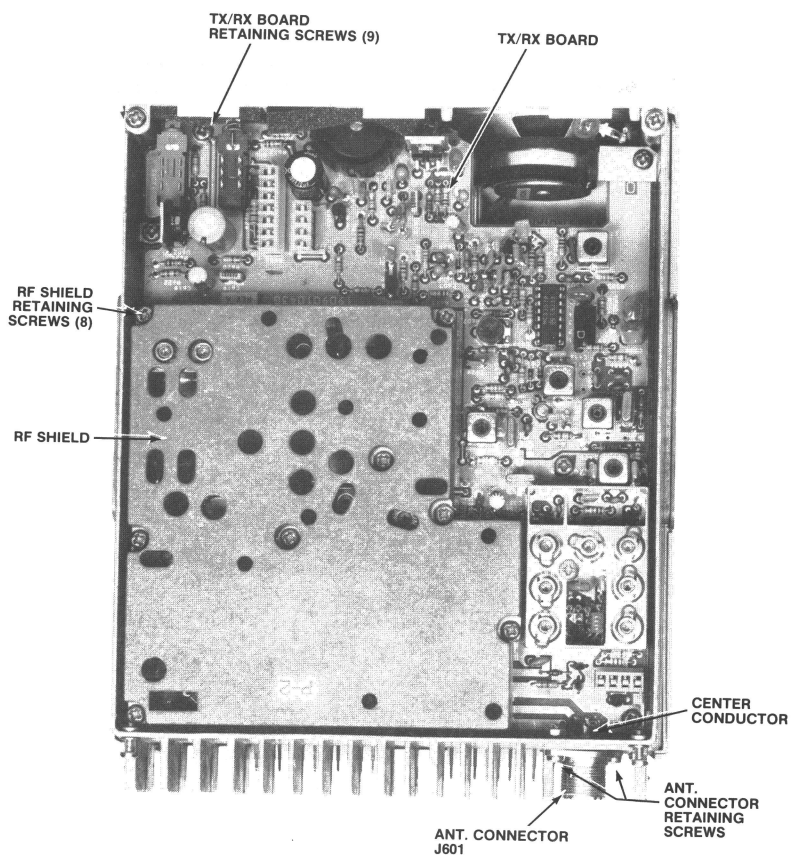

Figure 1 - Typical Transmit/Receive Board Removal
3. Remove the eight screws securing the RF shield. See Figure 1.